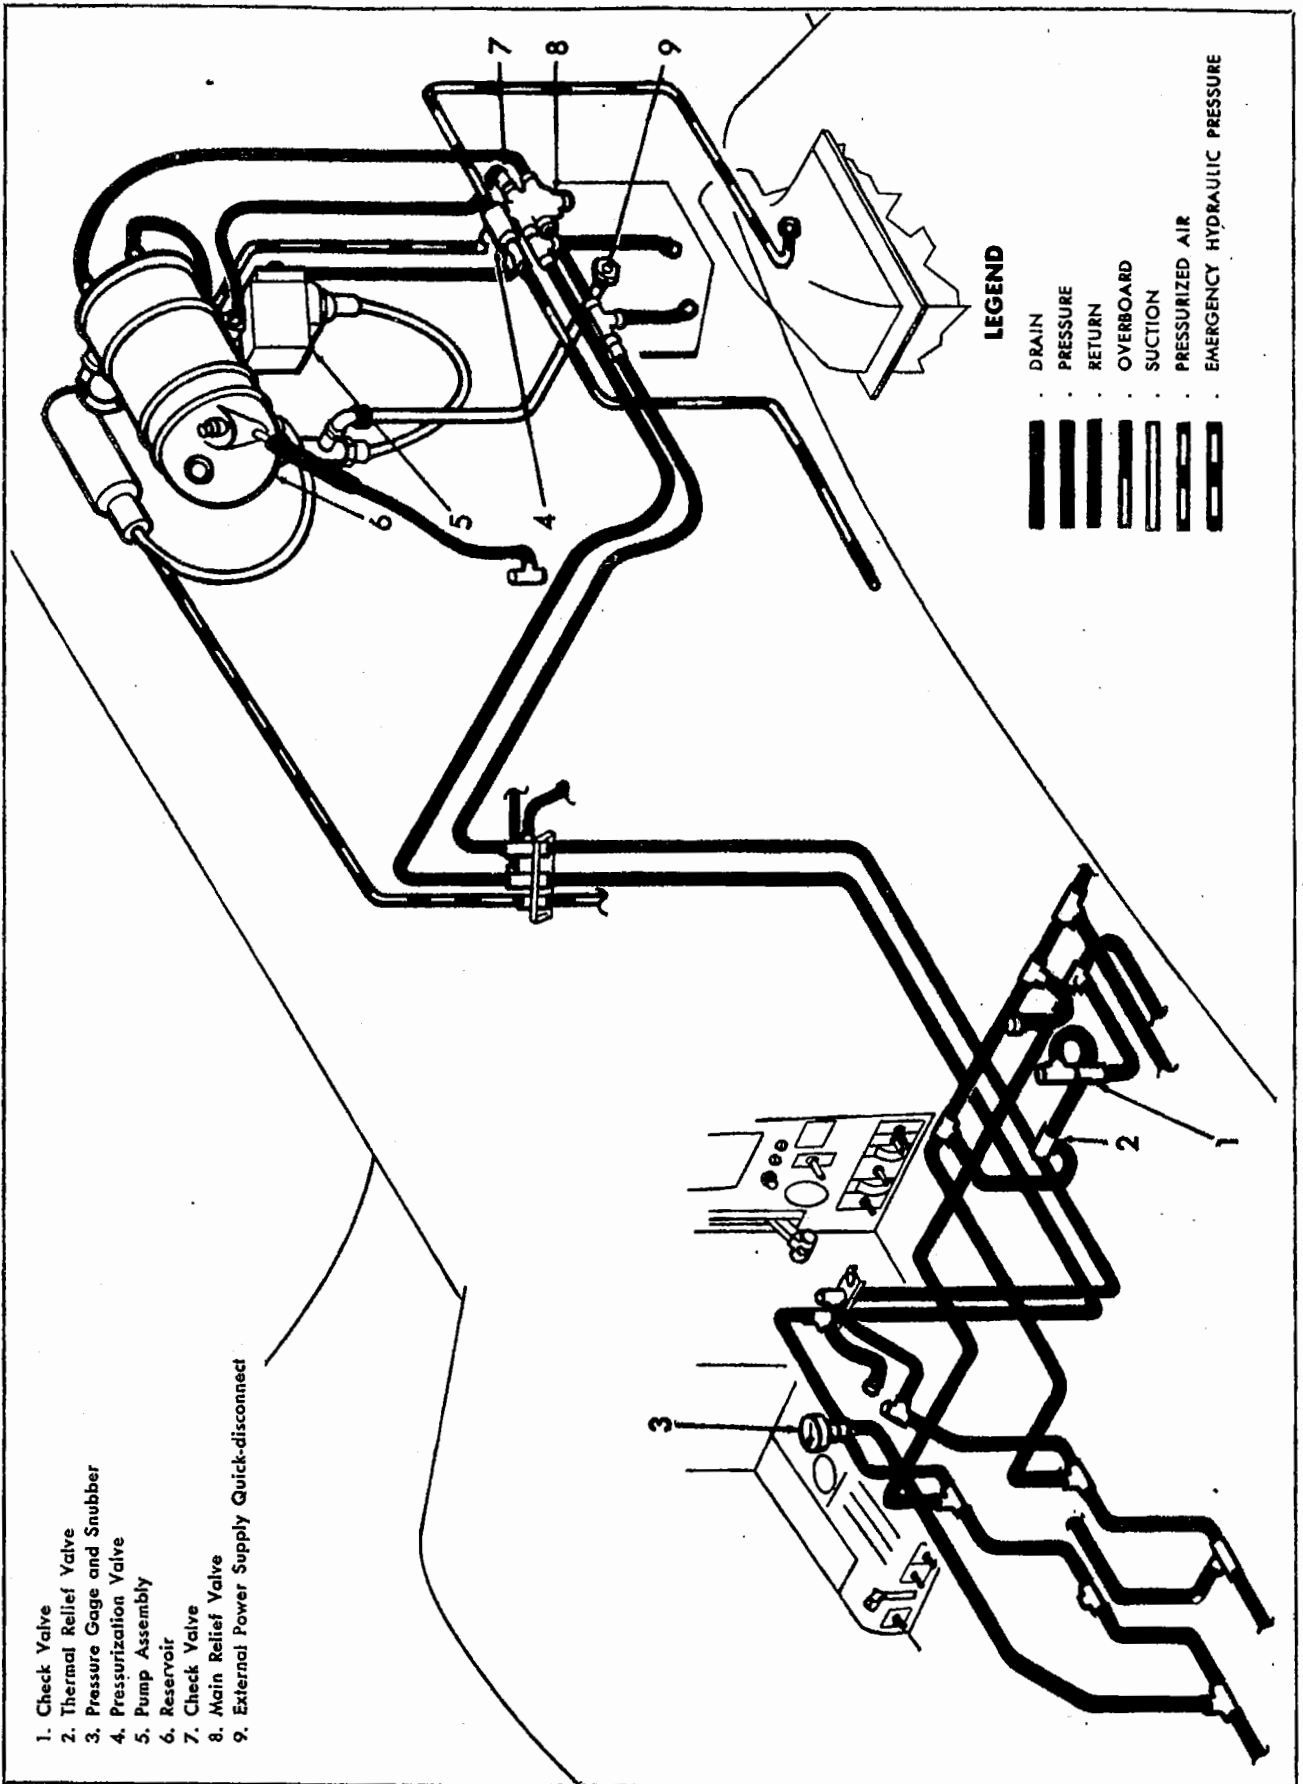
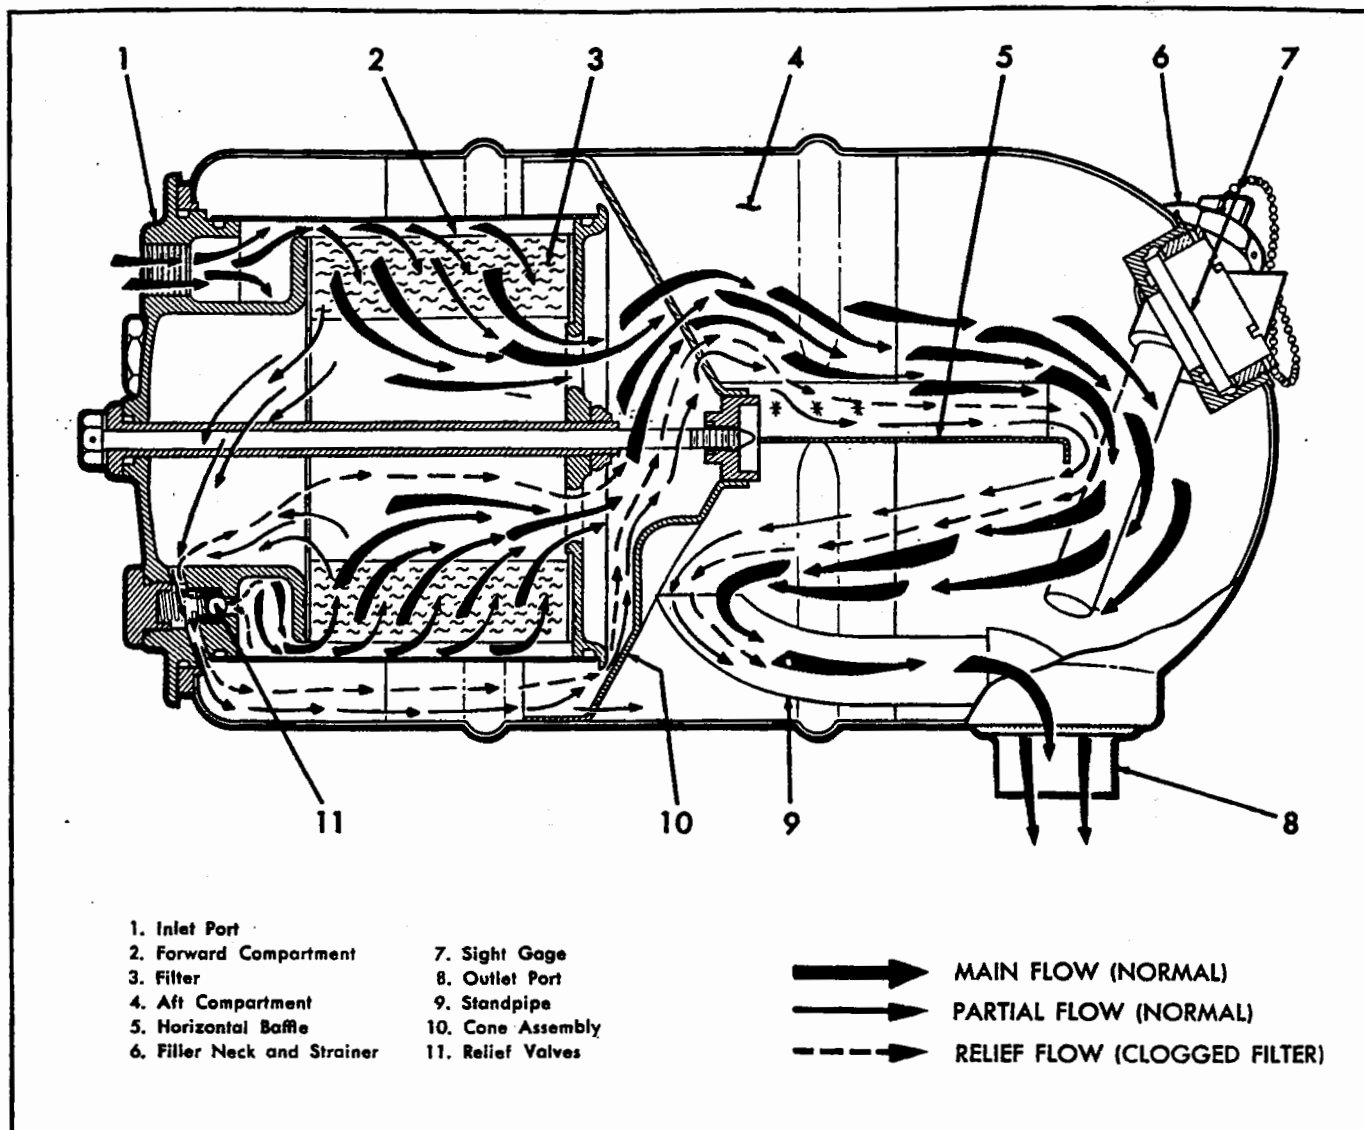

Figure 4-97. Hydraulic System—Main Pressure, Supply and Return.
Figure 4-98. Hydraulic Reservoir
4-924. **DESCRIPTION.** (See figure 4-97.) The basic components of the system are the reservoir and filter combination, the variable displacement pump, and a main relief valve. Operational efficiency of the system is increased by the pressurization of the reservoir up to 12
4-925. **PRESSURE AND RETURN FLOW.** (See figure 4-97.) The flow of hydraulic fluid starts at the suction line to the pump at a pressure of 3 to 12 psi. It flows into the pump where it is introduced to the low pressure cylinder port. As the cylinder fills, it turns 180° and a piston compresses the charge to 1500 psi. This flow passes through a check valve to the main relief valve, on to the hydraulic pressure gage and sub-systems. Returning from the system, fluid passes through the relief valve in the main return line, thence back to the reservoir where it passes through a filter (3), over a baffle (5), and into the aft compartment (4) of the reservoir. (See figure 4-98.)
4-929. DESCRIPTION. (See figure 4-98.) The hydraulic reservoir, which contains an integral filter unit, is located at the top of the engine accessory compartment on the right hand side of the airplane forward of the oil tank. Access for removing the hydraulic reservoir is provided by removing the top engine accessory compartment cowl panel. Access for filling the hydraulic reservoir is gained through a filler door located on the right hand side of the top engine accessory compartment cowl panel. The door is hinged at its left hand side and is provided with three flush, push-type latches. Adjacent to the hinge is an identifying decal which reads as follows:
The tank is mounted on two tube supports which are secured by clamps to the upper right and left hand tubes of the engine mount. The tank is secured to these tube supports by forward and aft strap assemblies. The forward strap assembly consists of two metal strips which are bolted together on the top of the reservoir. The aft strap assembly is a single metal strip which passes under the aft end of the tank and is secured to the tube support by a lock-wired bolt. Callouts used in the following text will be found in figure 4-98. The hydraulic reservoir is a welded assembly consisting of two major compartments: a forward compartment (2) containing unfiltered fluid and the removable filter assembly and an aft compartment (4) containing the filtered fluid supply for the pump, a fixed cone assembly (10), a fixed horizontal baffle (5), the filler neck and 100 x 90 mesh Monel screen strainer (6), and a sight gage (7). The filter assembly (3) incorporates three spring and ball relief valves (11) which permit unfiltered fluid to bypass the filter, should it become clogged, and flow through the cone into the aft reservoir compartment. Adjacent to the filler neck on the aft end of the tank, a glass window with "FULL" and "LOW" indications gives visual check of fluid level in the tank. The filler neck is located so as to prevent overfilling the reservoir. Should fluid be spilled alongside the filler neck during
4-930. FUNCTION. For operation of the hydraulic system at various altitudes, the reservoir is pressurized to a maximum of 12 psi. Pressurization is accomplished by air delivered through a line from the intercooler air duct to the pressurization valve located adjacent to the hydraulic panel and thence to the vent port on the top forward end of the reservoir. The pressurization valve also relieves excessive pressures within the reservoir. For further information on the pressurization valve, see paragraph 4-948. Callouts used below will be found on figure 4-98. The reservoir supplies the pump with pressurized, filtered fluid. The fluid enters the inlet port (1), flows from the forward tank compartment (2) through the paper filter (AN6236-2) (3), over the horizontal baffle (5), to the aft compartment (4) where it goes through the standpipe (9) to the outlet port (8) from